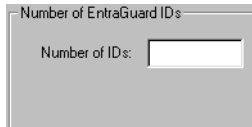

Figure 10-14: Enroll a Block of Random User IDs Field
1. To enroll a block of randomly generated User IDs, click on the  button. The Enroll EntraGuard User IDs window will reveal the following field (see Figure 10-14).